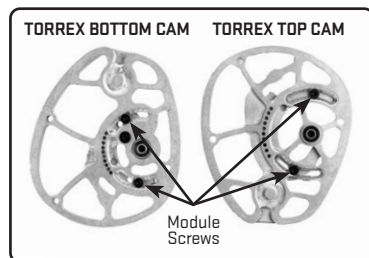

Fig. T-1
**Both Top and Bottom Cam:** To adjust the draw length of Hoyt's Torrex, Torrex XT, and Kobalt XT cams with a rotating inner-cam module with draw stop pegs, use a T-15 Torx Wrench to loosen both module screws 1.5 – 2 full turns (see Fig. T-1). There is no need to completely remove either of the module screws during adjustment, only loosen them.